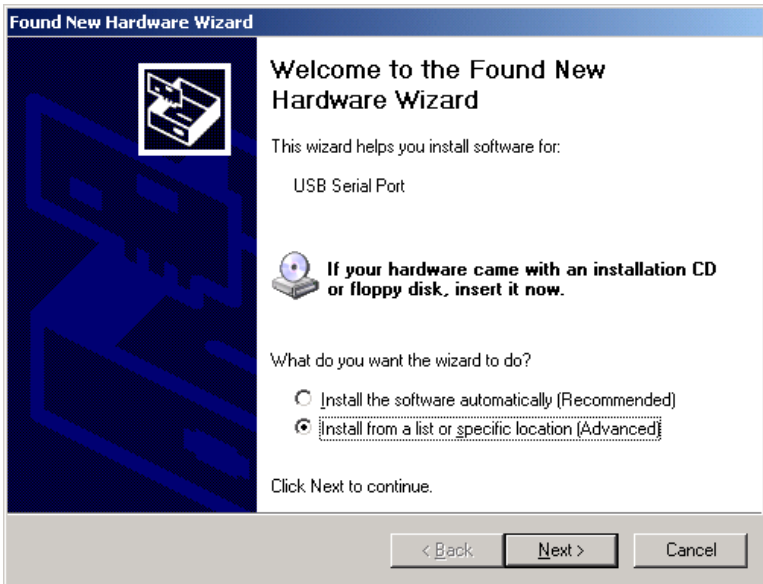

Figure 11. Windows XP New Hardware Wizard.
1. Check "Install from a list or specific location." Click **Next** (Figure 11).